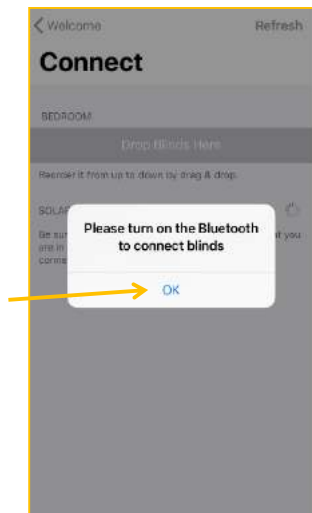

Figure 4
10.2.3.1. Make sure that Bluetooth is enabled on your smartphone and click **Ok** (Fig. 4).